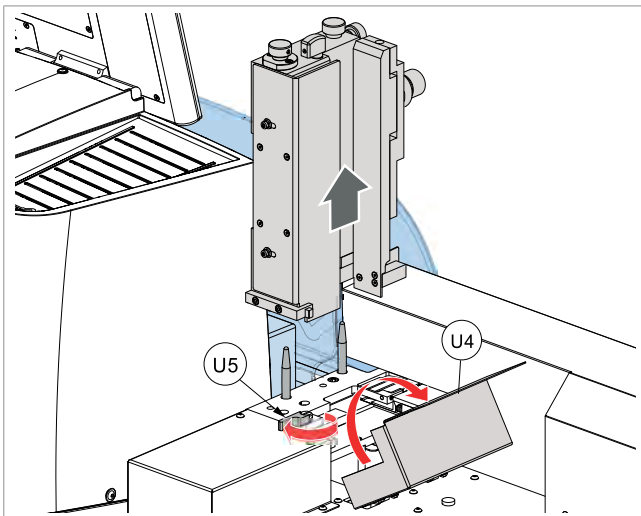

Fig. 132
- 8) Open the flap (U4), open the lever (U5) and remove the loader from the top (Fig. 132).